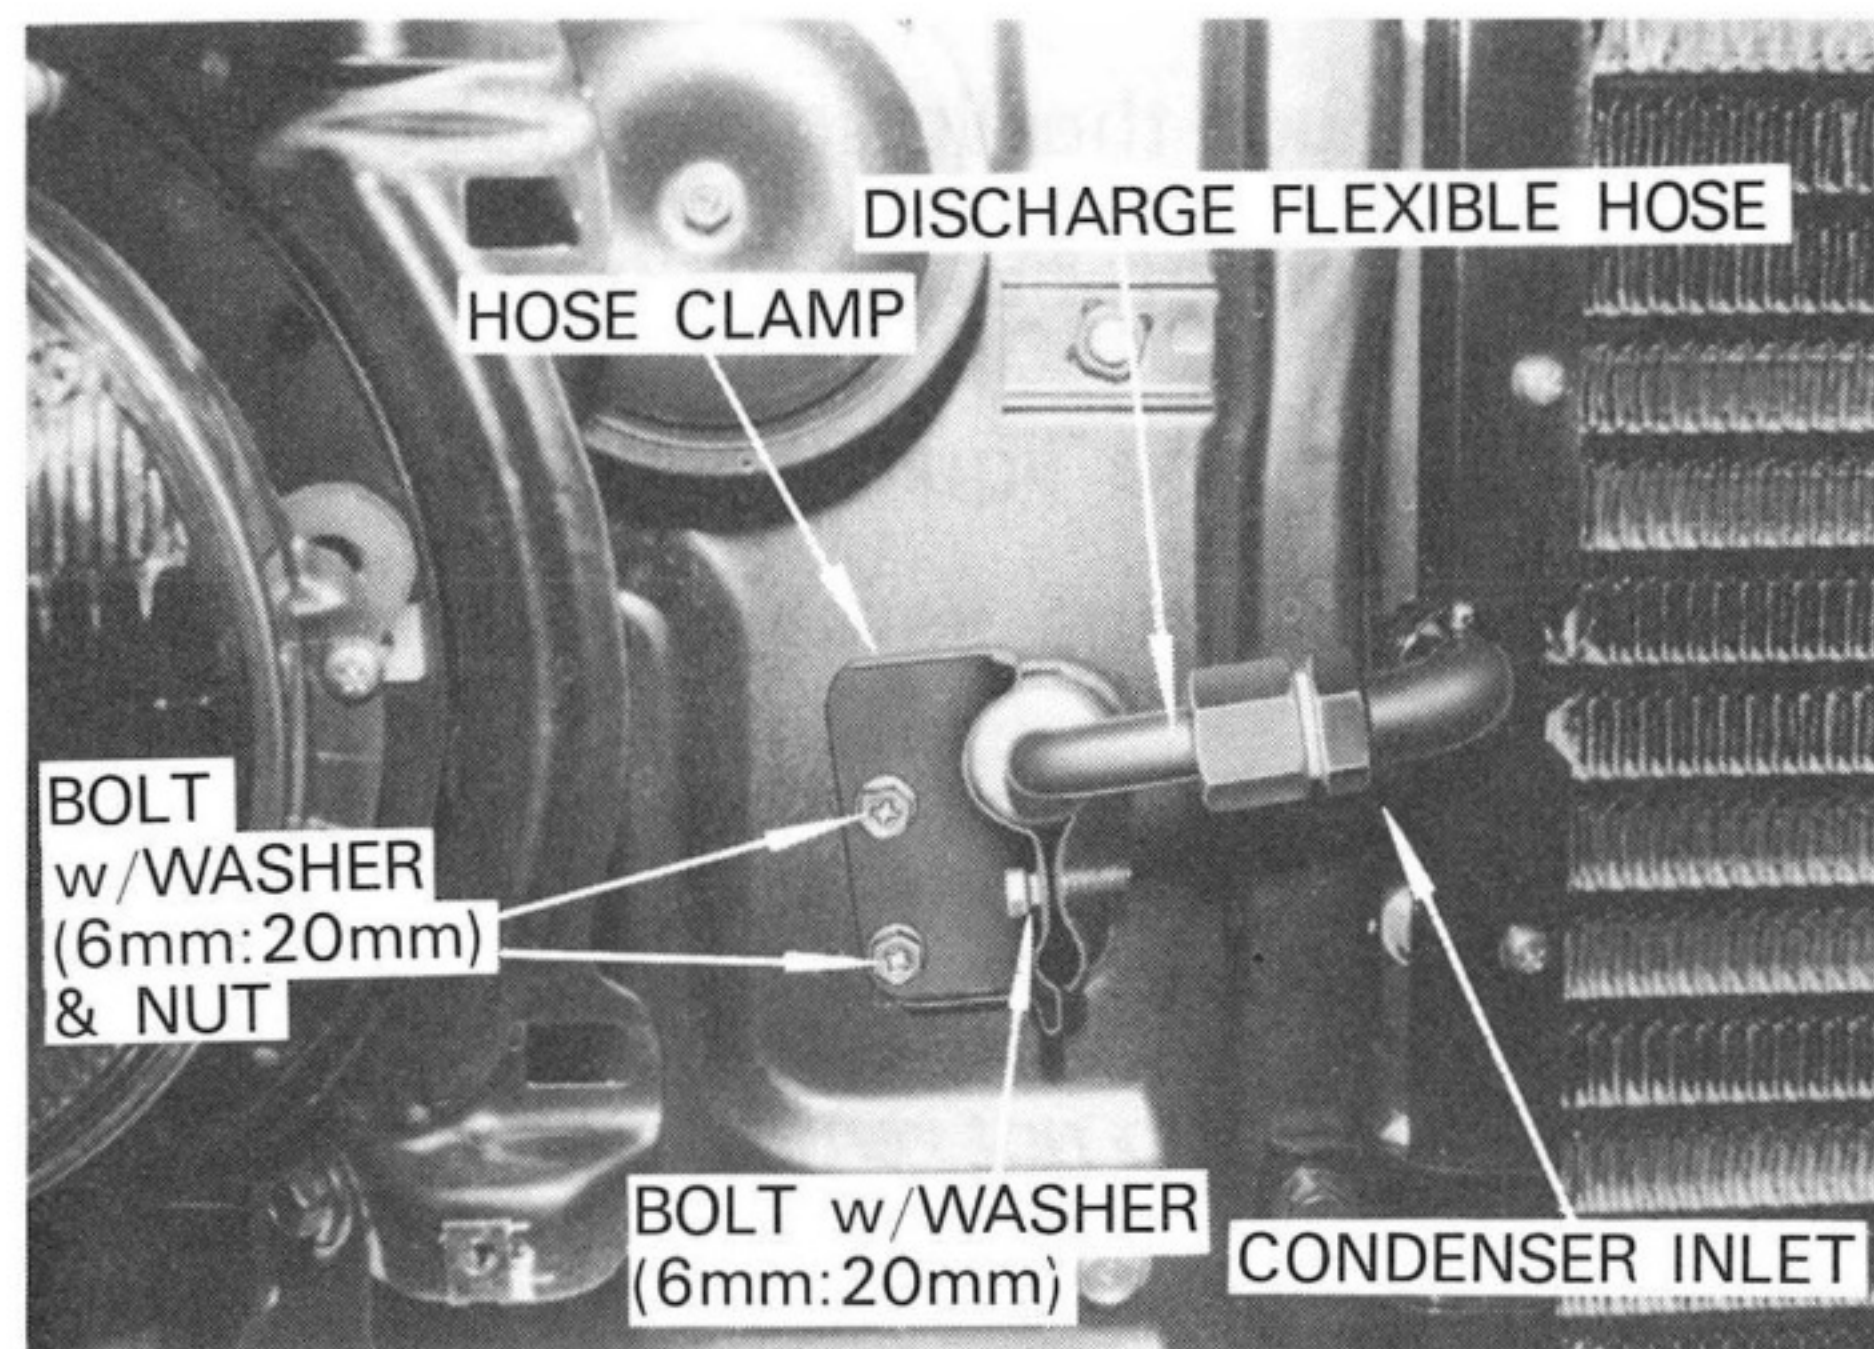

Fig. 31
A) Install the hose clamp to the discharge flexible hose using a bolt as shown in Fig. 31 (Upper Left Figure).
C) Fasten the discharge flexible hose onto the panel using two bolts and nut as shown in Fig. 31.